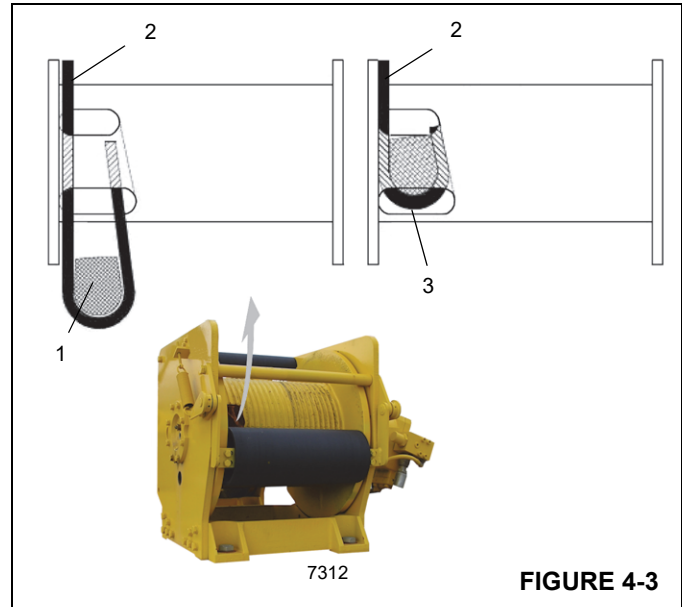

FIGURE 4-3
3. Insert the cable through the slot and position around the anchor wedge (1) (Figure 4-3).
**NOTE:** The end of the cable should be even with the bottom of the slot for the anchor wedge (1).
4. Position the anchor wedge in the drum slot; pull firmly on the free end (2) of the cable to secure the wedge.
**NOTE:** If the wedge does not seat securely in the slot, carefully tap (3) the top of the wedge with a mallet.